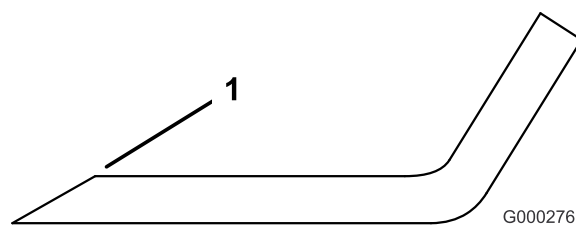

Figure 87
3. Examine the cutting edges of all of the blades and sharpen the cutting edges if they are dull or nicked (Figure 87).
Note: Sharpen only the top of the cutting edge and maintain the original cutting angle to ensure sharpness (Figure 87). The blade will remain balanced if the same amount of metal is removed from both cutting edges.